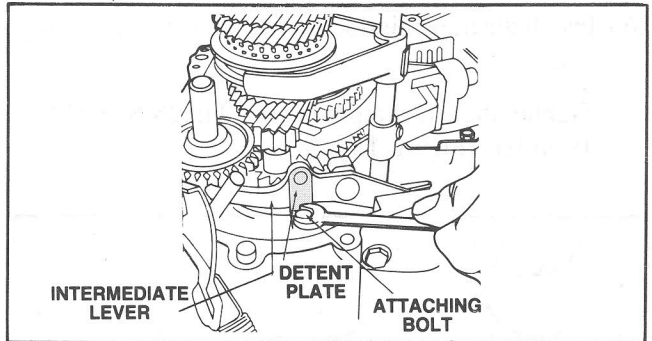

Figure 130 Detent Plate Installation
22. Install the reverse intermediate lever detent plate. (Figure 130).